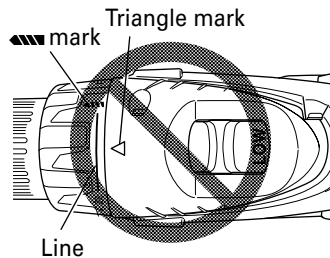

Fig. 10
- (1) When using this unit as a screwdriver, line up the one of the numbers "1, 3, 5 ... 22" on the clutch dial, or the black dot, with the triangle mark on the outer body.
- (2) When using this unit as a drill, line up the clutch dial drill mark "▲" with the triangle mark on the outer body.
- Do not use with the clutch dial set at the line between the number "22" and the drill mark "▲". Doing so may cause damage (See Fig. 10).